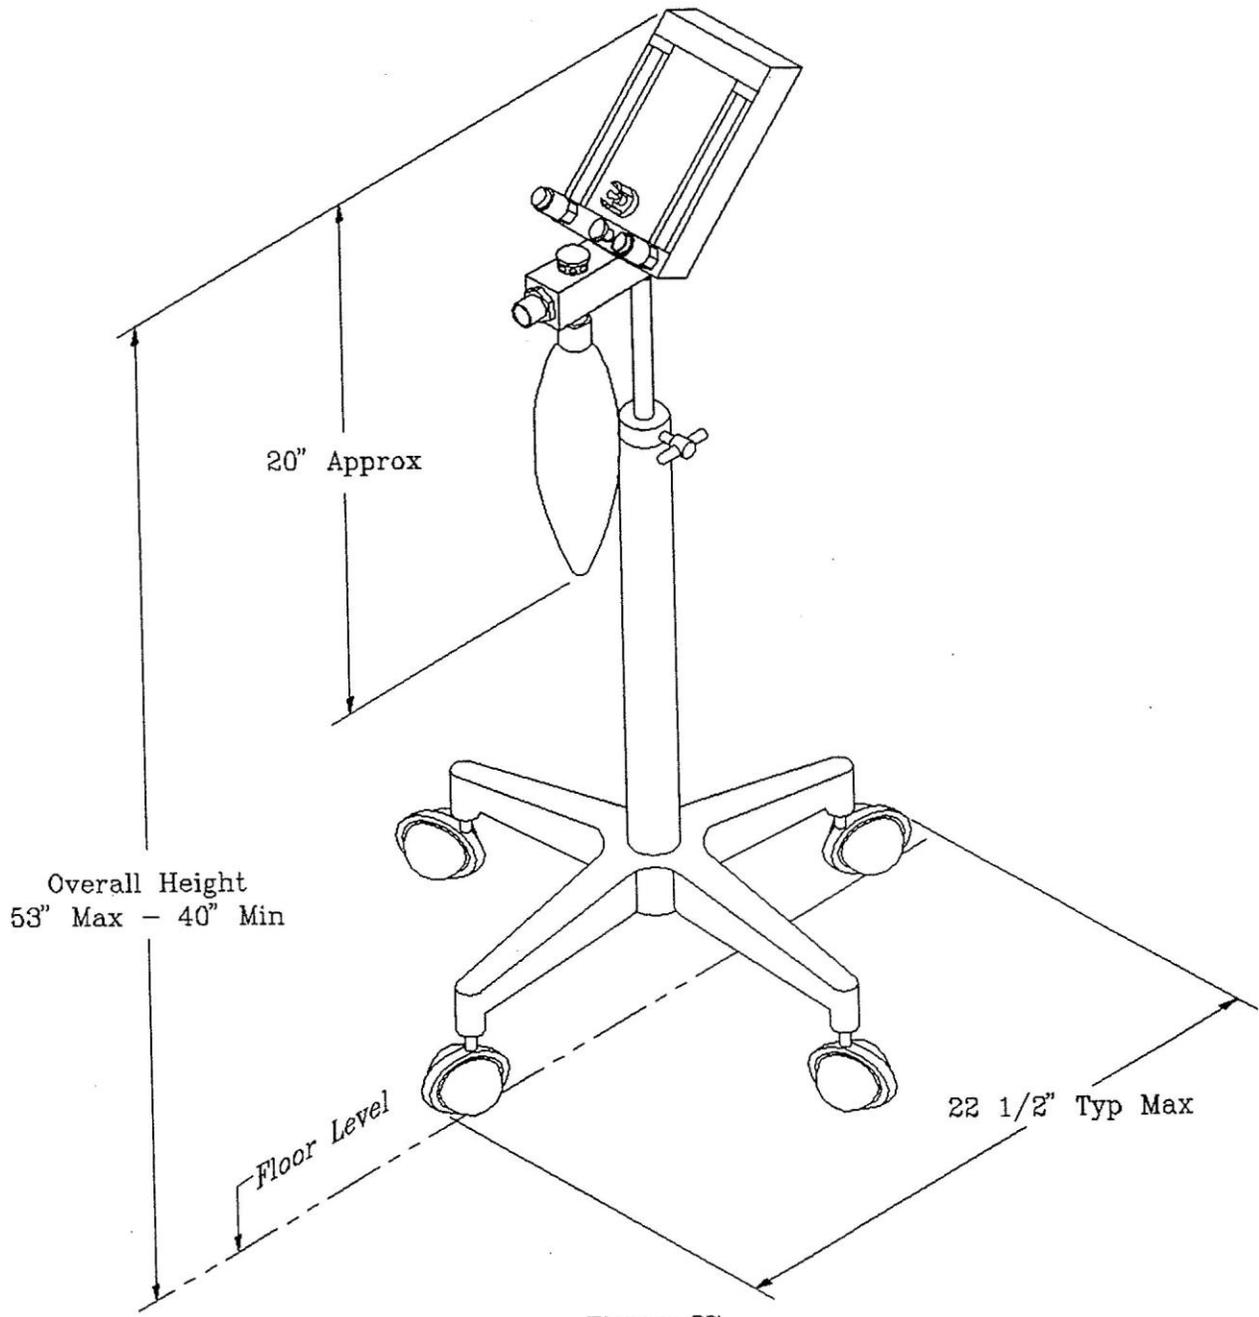

Figure 27
B. Ra Portable Stand Mounted Units (see fig 27)